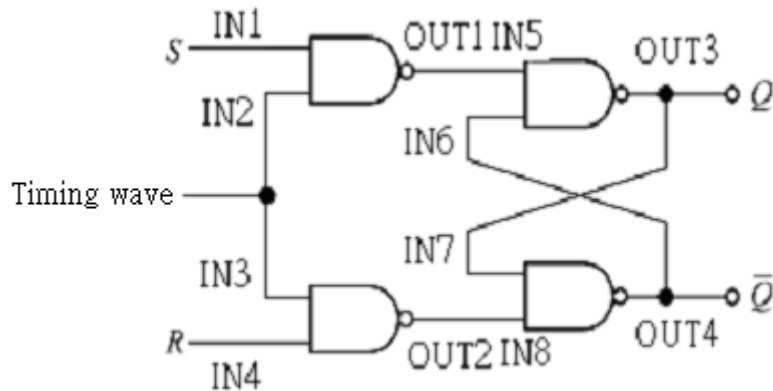
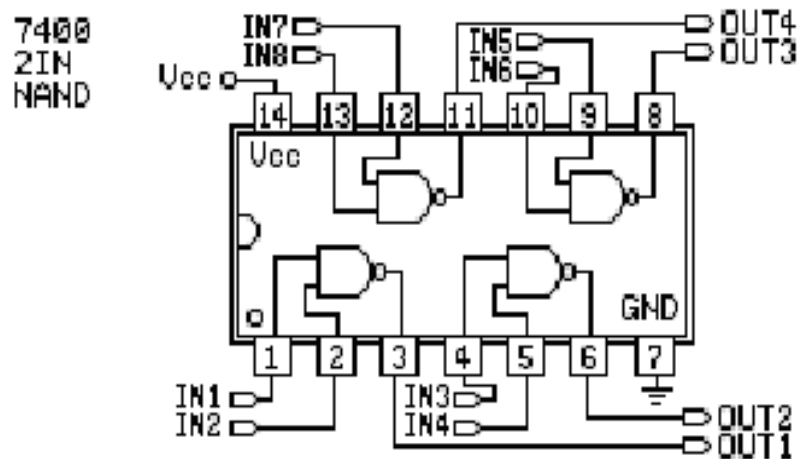

Figure 9-14
Figure 9-15
1. Bistable multi-vibrator circuit, as figure 9-14
2. Refer to figure 9-15 7400 2 input NAND gate circuit Connection, as figure 9-14.